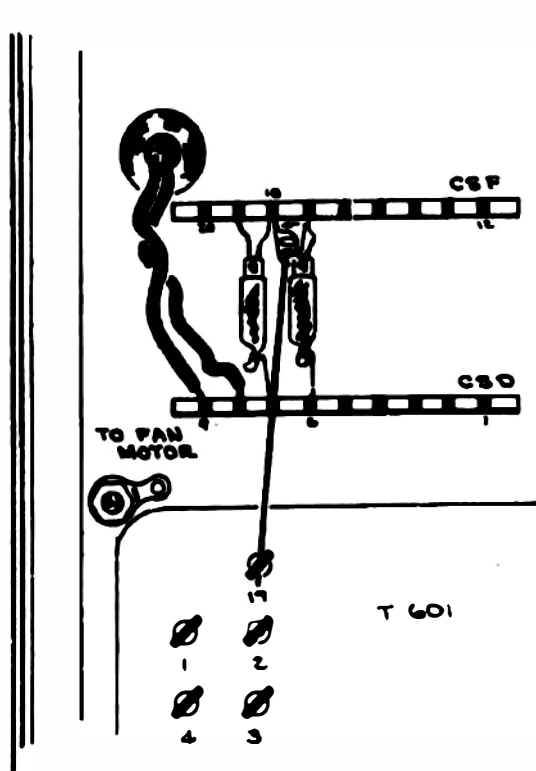
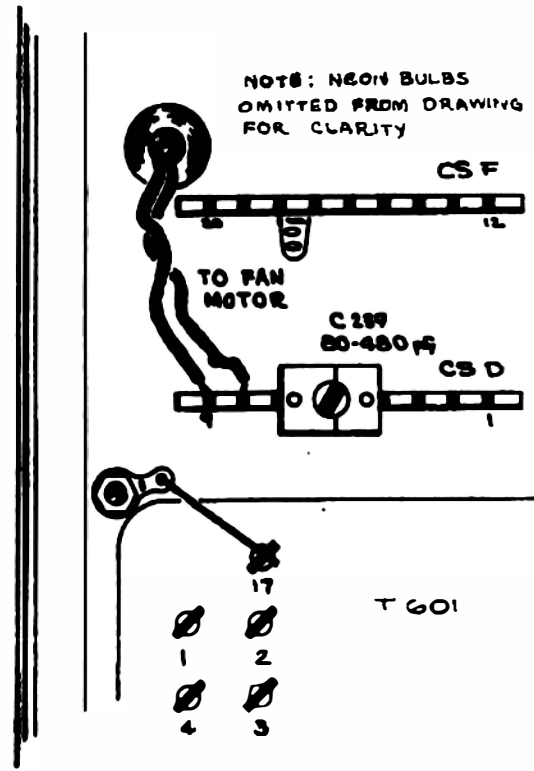

Fig. 14A BEFORE
Fig. 14B AFTER
- () 71. Move the neon holder from CSD-7 to CSO-6. See Fig. 14A for locations.
- () If a bare wire is connected from terminal 17 of T601 to CSD-7 to the ground lug indicated in Fig. 14A, remove this wire completely; instead, install a #16 bare wire (from kit) between terminal 17 and the ground lug shown in Fig. 14B. (If no lug is present, install a #10 solder lug from the kit.)
- () Install C239, an 80-480pF capacitor (from kit) between CSO-4 and CSD-7. See Fig. 14B.